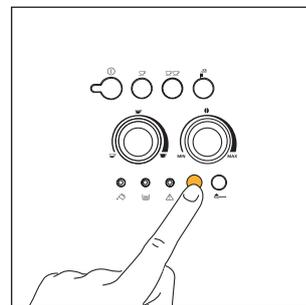

Fig.14
1)) If, when the machine has just been turned on, a short cup of coffee is required (less than 60cc), use the hot rinsing water to pre-heat the cups (see the suggestion in par. 4.3, point 5). 1) If, when the machine has just been turned on, a short cup of coffee is required (less than 60cc), use the hot rinsing water to pre-heat the cups (see the suggestion in par. 4.3, point 5). If, on the other hand, more than 2/3 minutes have elapsed since the last coffee was made, before preparing another coffee the infuser must be pre-heated, pressing the ☕☕ button (Fig. 14).